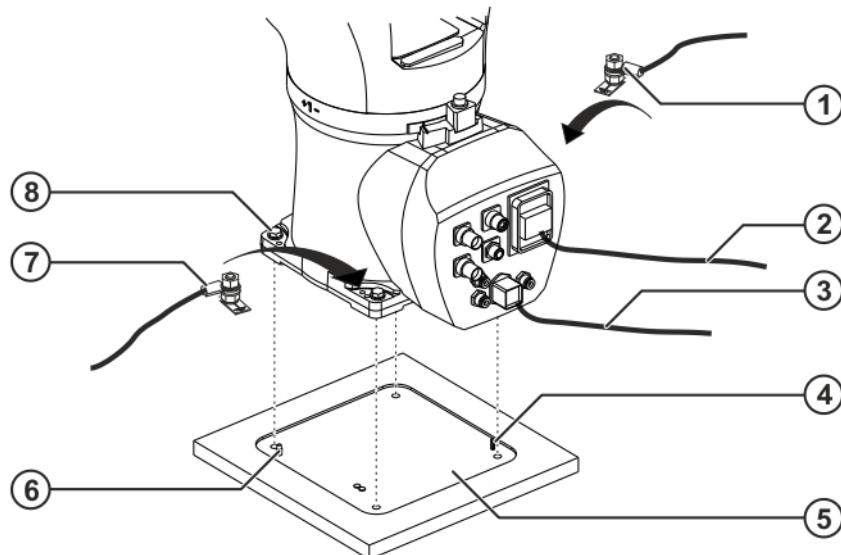

Fig. 8-2: Installing a floor-mounted robot
1. Check that the pins are undamaged and fitted securely (**>>>** Fig. 8-2).